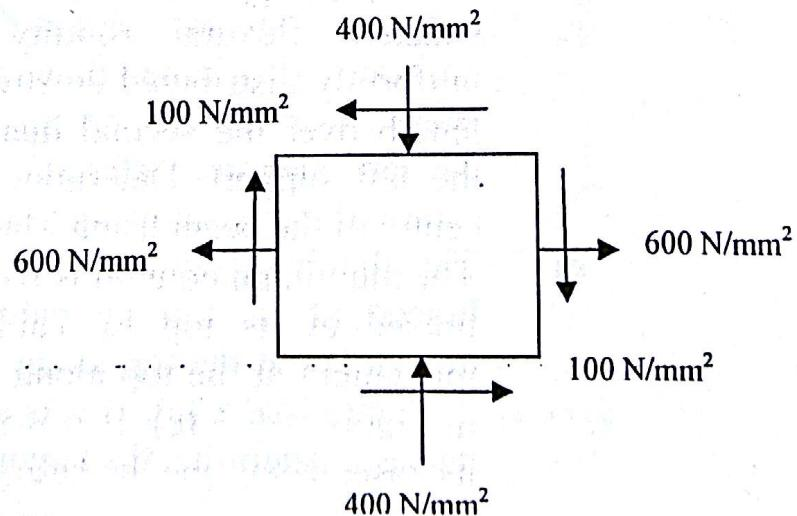

Figure No. 3 (b)
- b) Using Mohr's Circle method, find the principal stress and maximum shear stress. Knowing that an element has a tensile stress of 600 N/mm^2 and a compressive stress of 400 N/mm^2 acting on two mutually perpendicular planes and two equal shear stresses of 100 N/mm^2 on these planes as shown in Figure No. 3 (b). 6